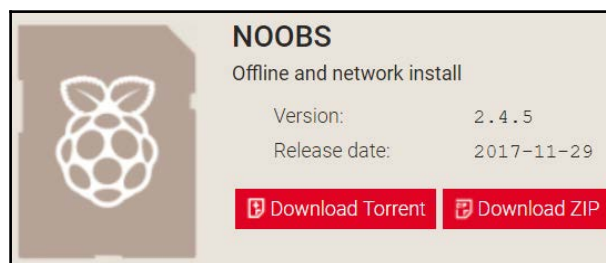

Figure 2.4
4. Select the **Offline and network install** option shown in *Figure 2.4*: